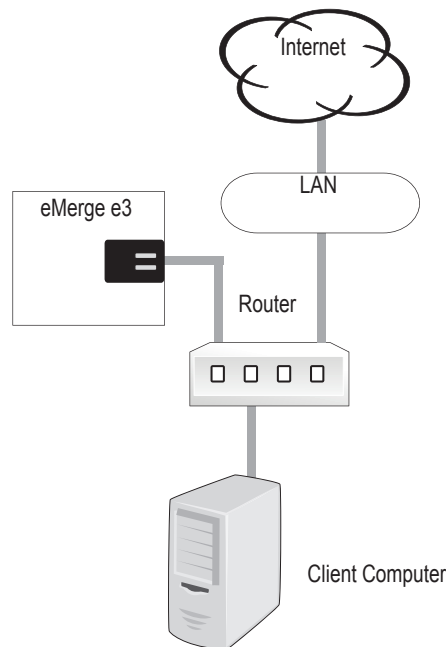

Figure 7.4. Connecting to a LAN
- Connect to the local area network (LAN) as shown in Figure 7.4.